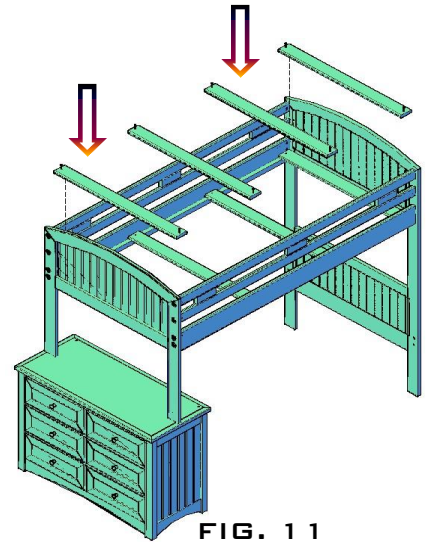

FIG. 11
- 5.- PLACE 4 SLATS (K) ON TOP SIDE RAIL CLEATS, ONE SLAT IN BOTH HEADBOARD&TOP BUNK BED ENDS, PUSH THE SLATS AGAINST THE BED END POST (FIG.A) AND TWO SLATS IN THE MIDDLE AT EQUAL DISTANCE FROM THE END SLATS, THEN EACH SLAT MUST BE FASTEN WITH ONE 1 1/4" SCREW (L), SEE FIG.11 (**USE ONE 4 PCS SLAT PACK (98-645)**)
- 5.- PLACE FOUR SLATS (O) ON TOP SIDE RAIL CLEATS, ONE SLAT IN BOTH TOP BUNK BED ENDS, PUSH THE SLATS AGAINST THE BED END POST (FIG. A) AND TWO SLATS IN THE MIDDLE AT EQUAL DISTANCE FROM THE END SLATS, THEN EACH SLAT MUST BE FASTEN WITH ONE 1 1/4" SCREW (P), SEE FIG.11 (**USE ONE 4 PCS SLAT PACK (98-645)**)